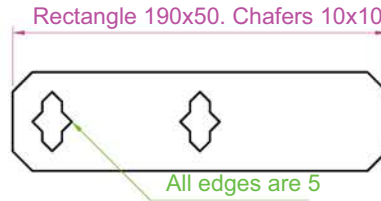

Fig. 6.20 Example – Move – drawing
1. Construct the drawing Fig. 6.20.